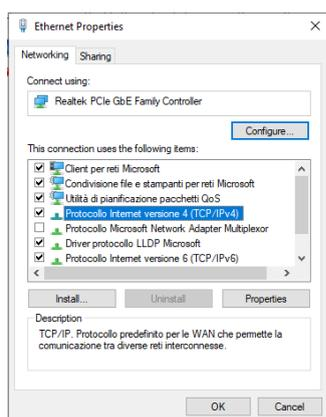
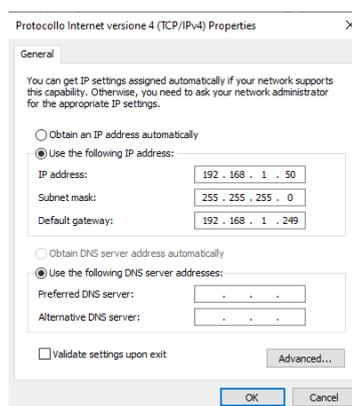

Fig. 6
Fig. 7
- From the Ethernet properties menu (Fig.6), select “Internet Protocol version 4 (TCP / IPv4)” and press the “Properties” button which will be enabled in the meantime. The screen in Fig. 7 will open.
13. Select “Network” from the Configurations menu to set the MDB-E network parameters in accordance with those of your Ethernet network. For example, if in the original screen of Fig.7 the IP address was 192.168.10.1, set MDB-E to 192.168.10.101 (Fig.9).